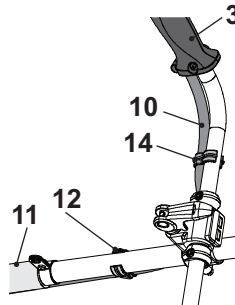

Fig. 7
5. Attach the electric cord (10) with the cord clip (smaller) (14) on the righthandle bar (3), the cord clip (bigger) (12) on the upper pole (11) (Fig. 7).